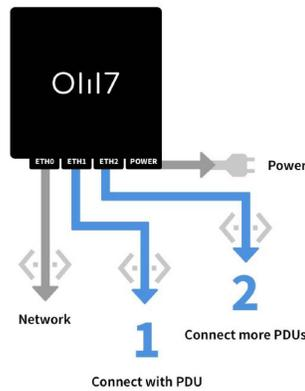

Figure 2. Normal Ethernet Configuration
8. Now you can log in and you're ready to start energy management with Om7Sense, as shown in Figure 2